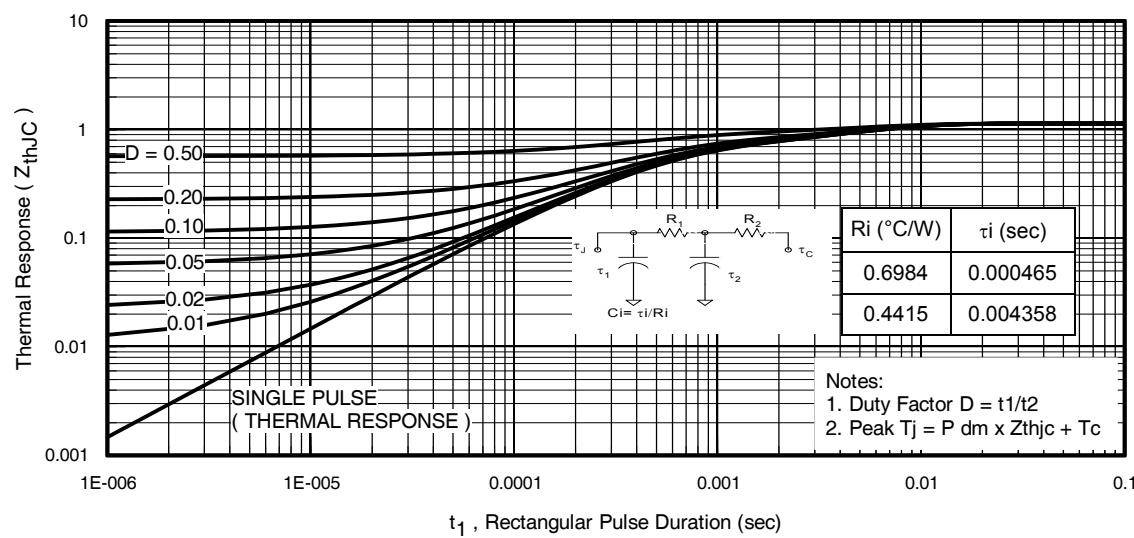
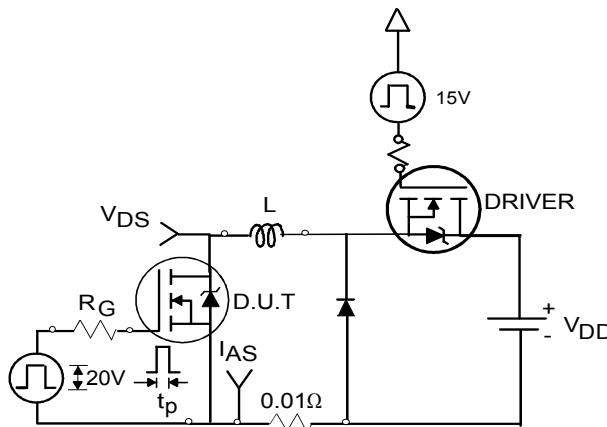

Fig 11. Maximum Effective Transient Thermal Impedance, Junction-to-Case
Fig 12a. Unclamped Inductive Test Circuit
- ① Repetitive rating: pulse width limited by max. junction temperature. (See fig. 11)
- ② Limited by T_{Jmax} , starting $T_J = 25^\circ\text{C}$, $L = 0.12\text{mH}$, $R_G = 25\Omega$, $I_{\text{AS}} = 42\text{A}$, $V_{\text{GS}} = 10\text{V}$. Part not recommended for use above this value.
- ③ Pulse width $\leq 1.0\text{ms}$; duty cycle $\leq 2\%$.
- ④ $C_{\text{oss eff.}}$ is a fixed capacitance that gives the same charging time as C_{oss} while V_{DS} is rising from 0 to 80% V_{DSS}
- ⑤ Limited by T_{Jmax} , see Fig.12a, 12b, 15, 16 for typical repetitive avalanche performance.
- ⑥ This value determined from sample failure population, starting $T_J = 25^\circ\text{C}$, $L = 0.12\text{mH}$, $R_G = 25\Omega$, $I_{\text{AS}} = 42\text{A}$, $V_{\text{GS}} = 10\text{V}$.
- ⑦ When mounted on 1" square PCB (FR-4 or G-10 Material). For recommended footprint and soldering techniques refer to application note #AN-994
- ⑧ R_0 is measured at T_J approximately 90°C .
3. Equation below based on circuit and waveforms shown in Figures 12a, 12b.